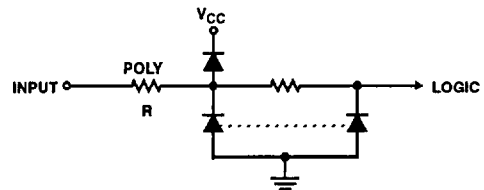
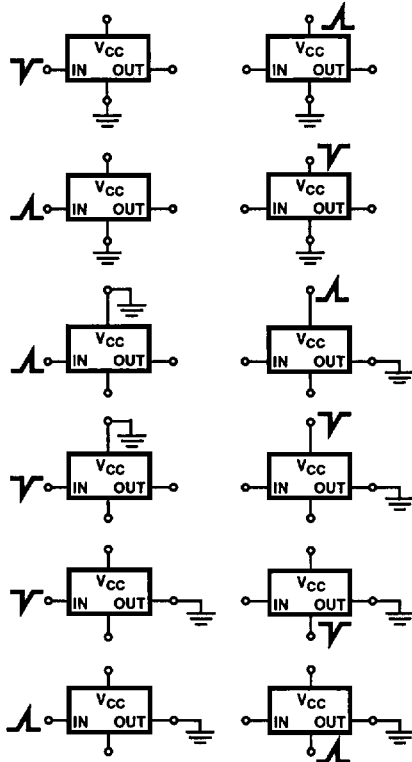
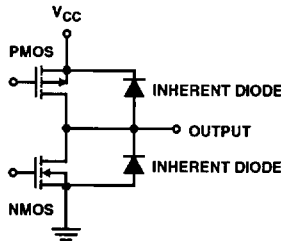

FIGURE 9. RESISTOR DIODE PROTECTION NETWORK USED ON INPUTS OF HC/HCT DEVICES TO PROTECT DEVICE GATE OXIDE FROM ELECTROSTATIC DISCHARGE DAMAGE (ESD)
FIGURE 10. HC/HCT ESD TEST MODES
FIGURE 21. INHERENT DIODES PROTECTING HC/HCT OUTPUTS
The very low HC/HCT input current and hence, high input resistance is primarily due to low-level leakage currents of the input ESD protection diodes shown in Figure 9. This excellent input buffering characteristic of CMOS logic ICs is fundamental to the wide range of very low power applications from pure logic to wide range RC oscillators, high Q crystal oscillators, etc. However, in no situation should this high input resistance be left floating or unterminated. Inputs may be tied directly to V_{CC} or GND via resistors of up to 1MΩ; the upper limit is only related to AC noise immunity, i.e., pick up.
One additional note on HC/HCT input terminations. There are several bidirectional (transceiver) logic types in the QMOS family with common I/O pins. These I/O pins do not have the input poly resistor (R) of Figure 9. Hence, these pins cannot be terminated directly to V_{CC} or GND. A terminating resistor to V_{CC} or GND of 10kΩ is recommended.
HC/HCT device inputs have a resistor-diode protection network, shown in Figure 9, that protects the gate oxide from electrostatic discharge (ESD) damage. The network provides protection to levels typically greater than 2kV in all modes pertaining to the input, as shown in Figure 10. The
As a general rule, CMOS logic devices employing input clamp diodes (Figure 9) to minimize ESD effects should be operated between the power supply rails. If the input series polysilicon resistor shown in Figure 9 is not considered, then the rule is: $-0.5\text{V} \leq V_{IN} \leq (V_{CC} + 0.5\text{V})$.
The outputs in a QMOS device are protected from ESD damage by diodes. Figure 21 shows these diodes. These intrinsic diodes are effective because of the large geometries (widths) of the output transistors. These diodes are the drain to n-substrate junction of the p device and the drain to p-well junction of the n device. This network provides protection to voltage levels typically greater than 3kV in all ESD discharge modes pertaining to the output (see Figure 10).